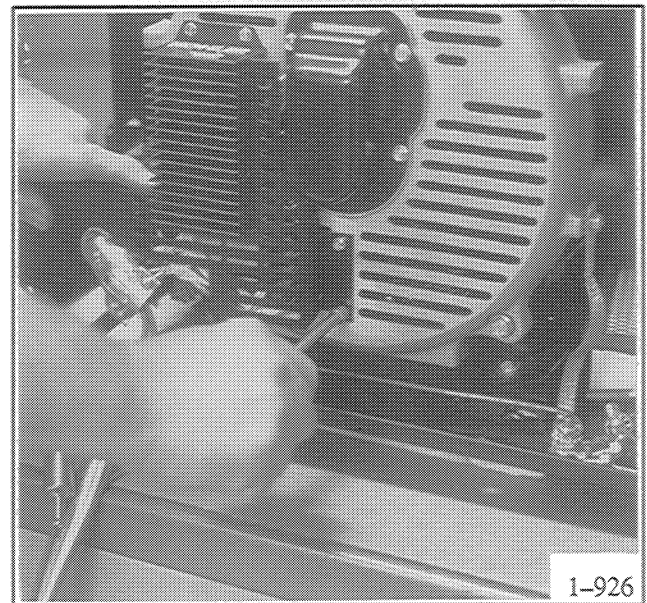

Figure 8-9. Removing Voltage Regulator Guard
12. Remove two screws on the other end of the voltage regulator guard using 1/4 in. nutdriver to free guard. See Figure 8-9.